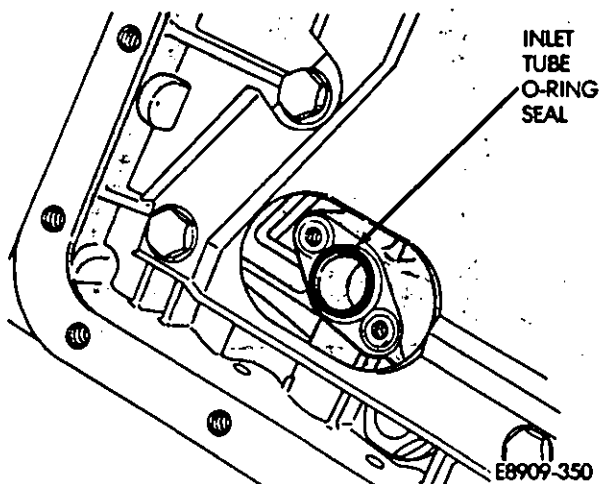

Fig. 3—Inlet Tube O-Ring Seal
- (3) Remove O-ring seal (Fig. 3). Discard the inlet tube O-ring seal.